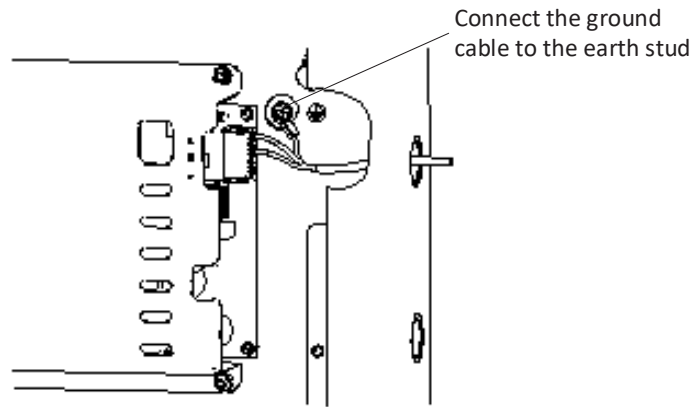

Figure 14 Ground Wiring
- Mark the locations of the two upper mounting bolts of the cabinet on the wall. See Figure 14 for the mounting size.